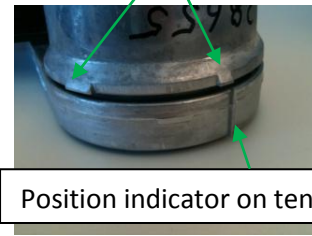

**Fig. 1**
- Check that the tensioner mounting pin does not stick out on the other side of the bracket as this will result in angular misalignment. Shave off a few mm's of the pin if necessary. **Fig. 1**